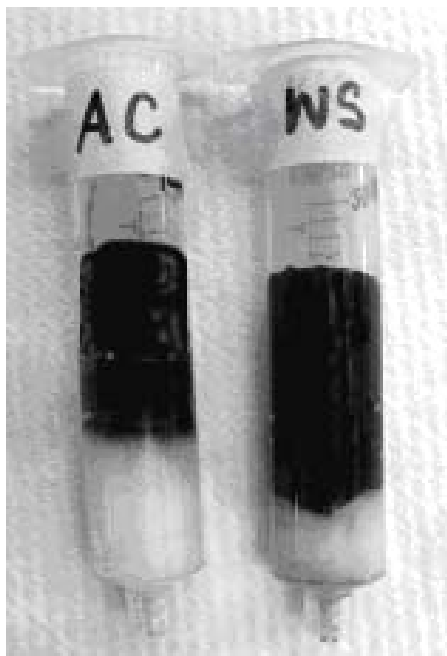

Figure 2. Syringes representing activated charcoal (AC) and water softener (WS) filters
- Using a small funnel, add 2 teaspoons of AC to one syringe. (See Figure 2)
- Using the funnel, add 2 teaspoons of WS resin beads to the other syringe. (See Figure 2)